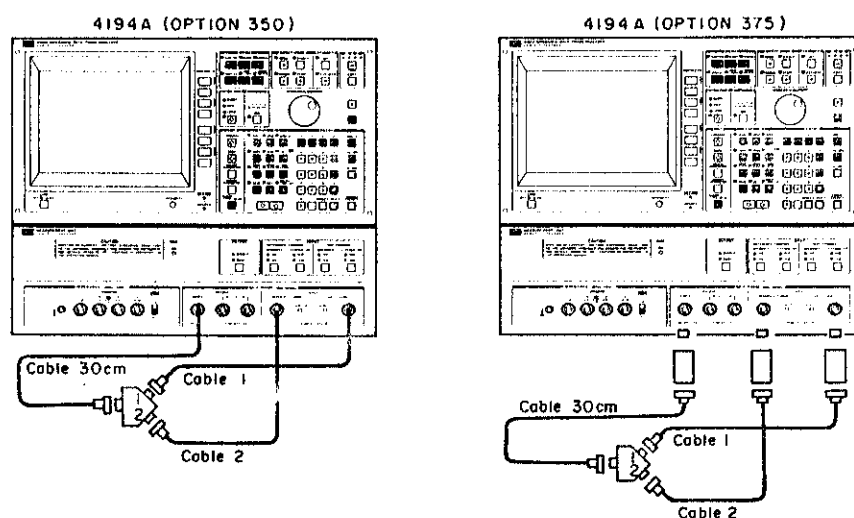

Figure 4-10. HP 11667A Tracking Error Calibration Setup 2
9. Reconnect cables 1 and 2 as shown in Figure 4-10 (cable 1 to the **TEST CHANNEL**; cable 2 to the **REFERENCE CHANNEL**).